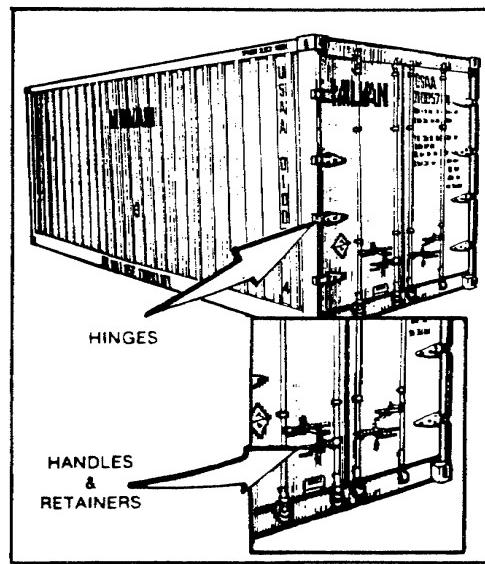

Figure 2-9. Where To Inspect for Hinges, Handles, and Retainers.
1.8. The hinges must not be damaged or broken, and the doors must open and close freely (figure 2-9).